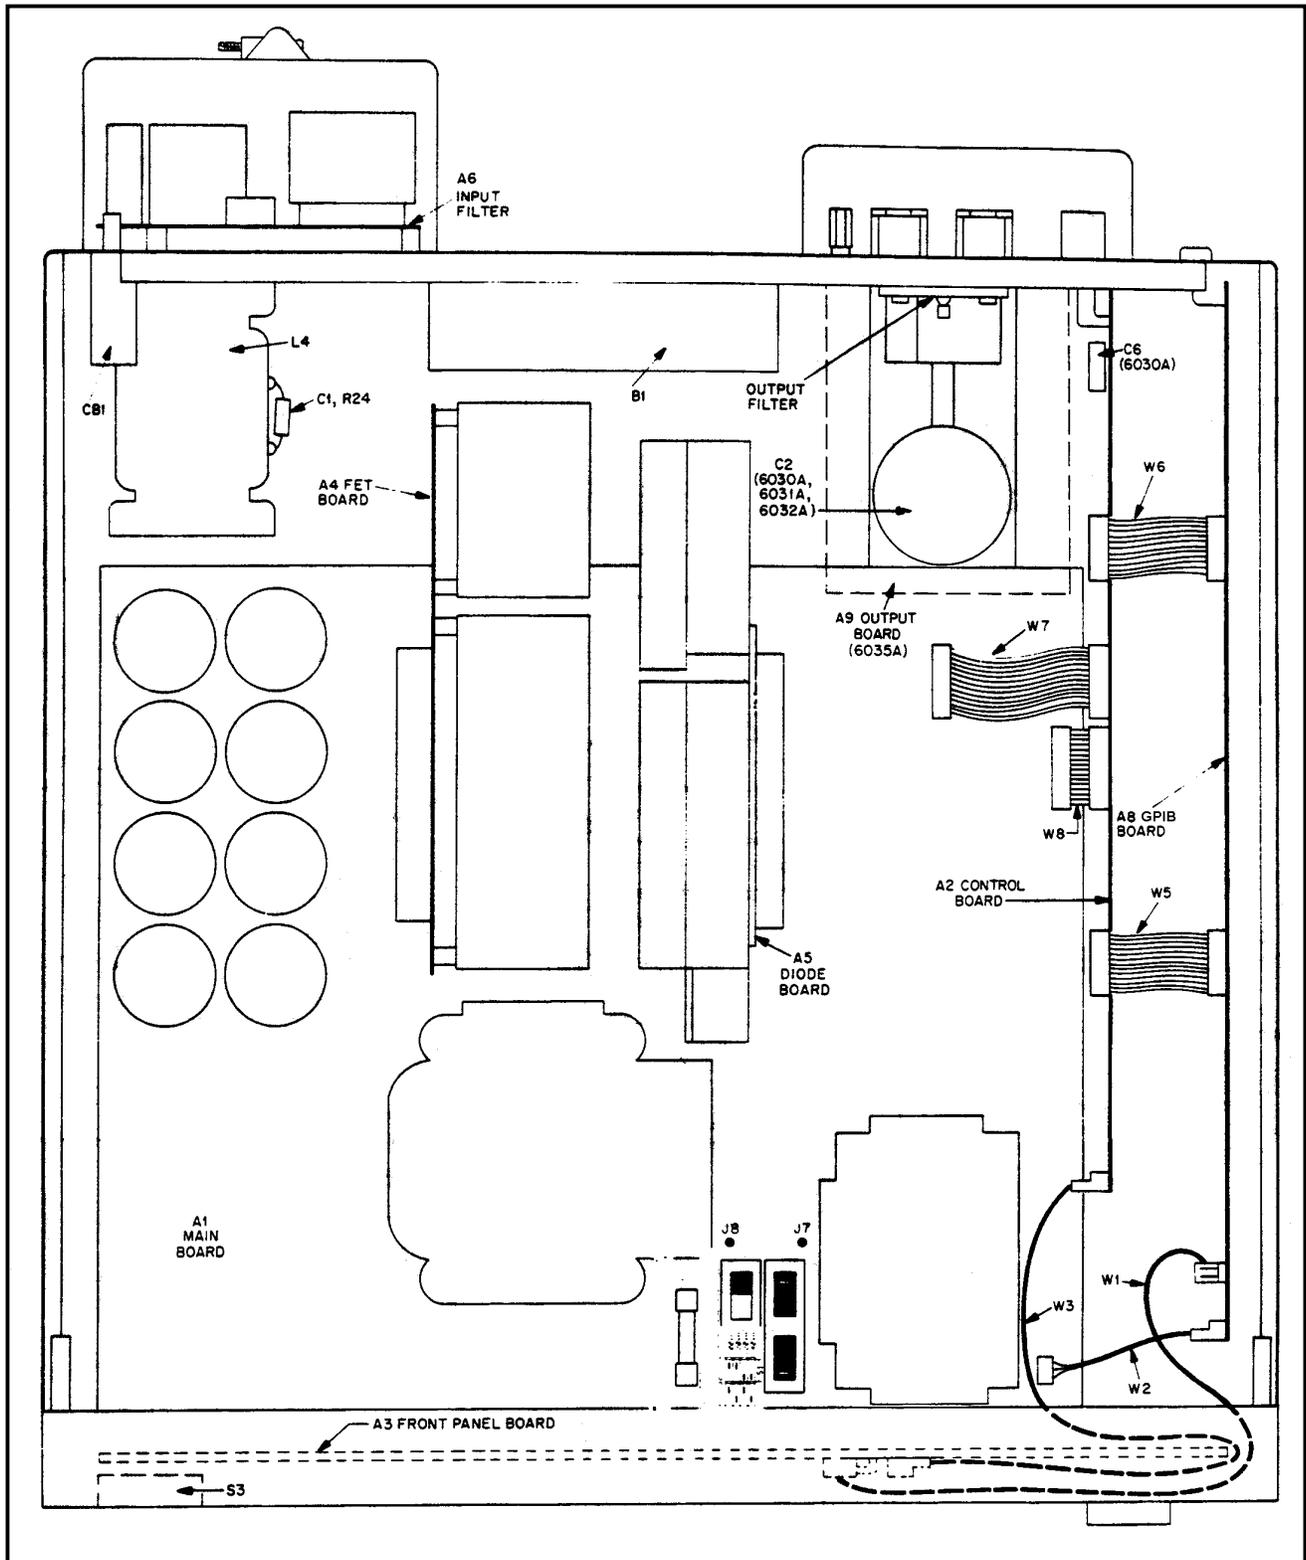

Figure 6-1. Top View, Top Covers Removed
- Component location illustrations (Figures 6-1 through 6-9), showing the physical location and reference designators of almost all electrical parts. (Components located on the rear panel are easily identified.)